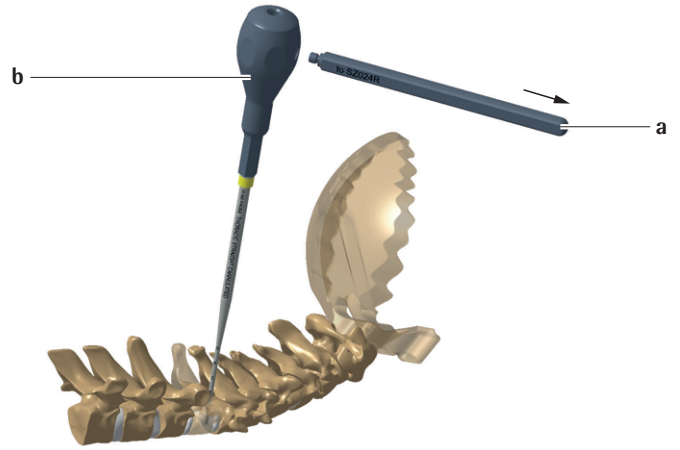

Fig. 62
- ▶ If used, remove the additional handle **a** from the grey handle **b**, see Fig. 62.